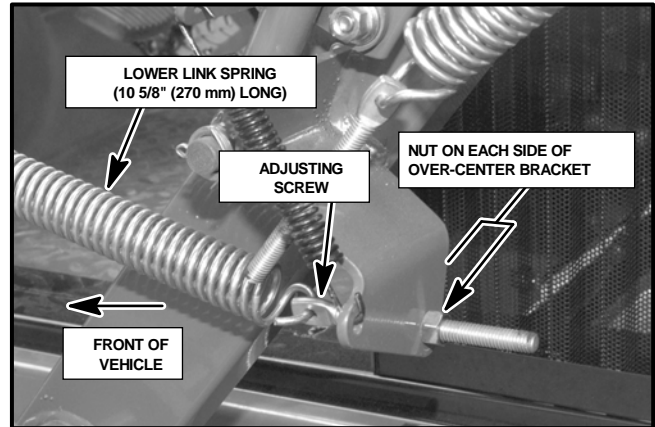
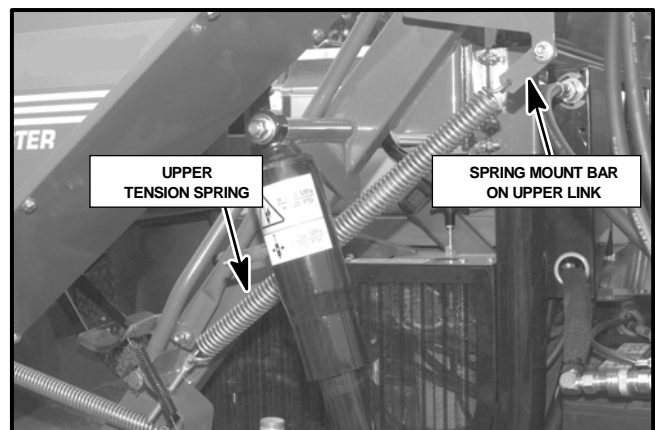

Figure 24
Figure 25
2. Connect the other end of the spring to the adjusting screw on the over-center bracket (See Fig. 24).
3. Using the screw (Part No. 832438) and two (2) 3/8-16 nuts (Part No. 304632) from the Accessory Kit, install them to the over-center bracket. Make sure to keep one nut on each side of the bracket. The spring will be adjusted later.
4. Connect one end of the 15 3/8" (391 mm) long upper tension spring (Part No. 832322) to the mount bar on the upper link (See Fig. 25).